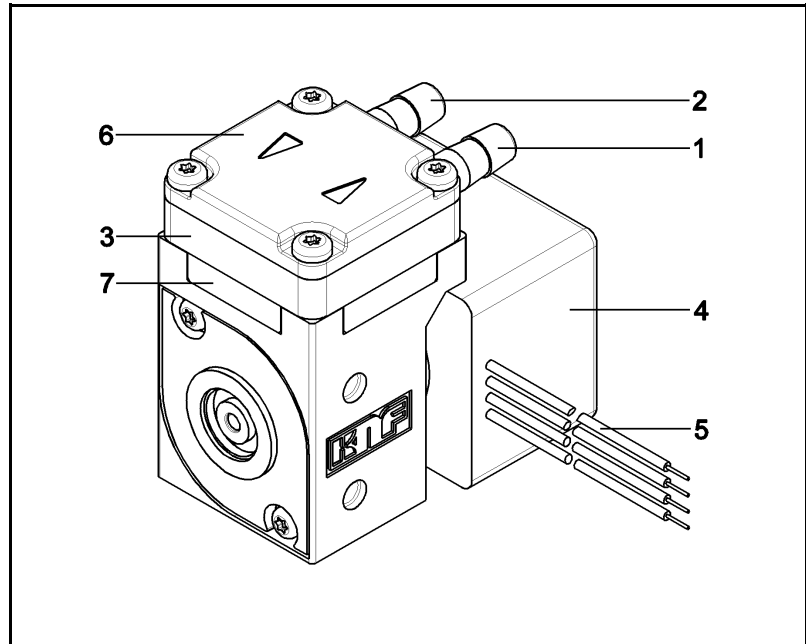

Fig. 1: Micro diaphragm liquid pump NF 25
* The pump head (Fig. 1) comprises a connecting plate and an intermediate plate.